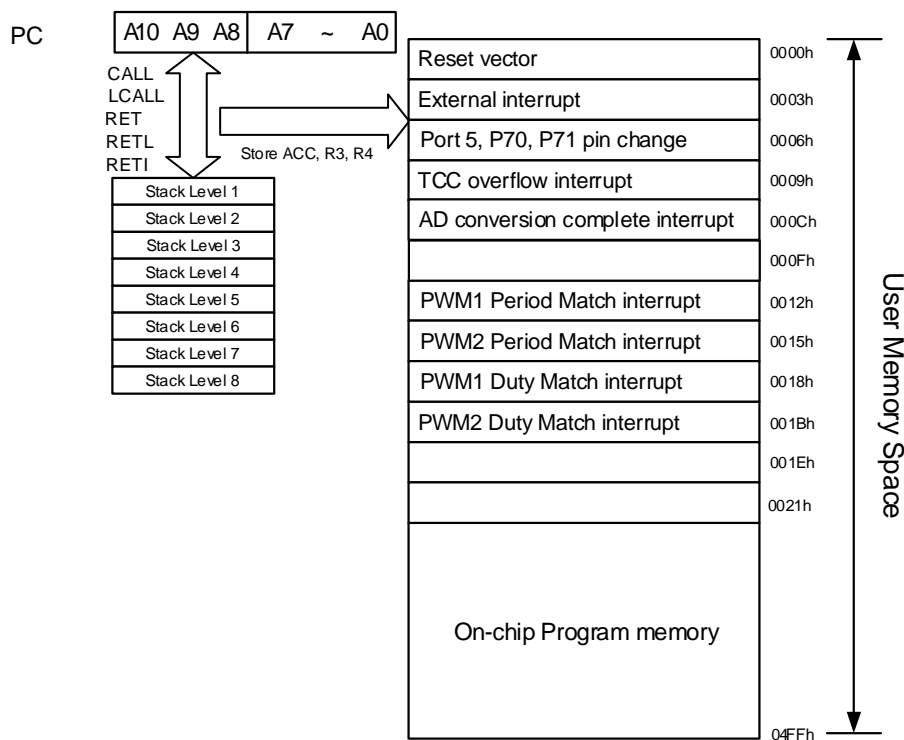

Figure 7-1 Program Counter Organization
- R2 and hardware stacks are 11-bit wide. The structure is depicted in Figure 7-1.